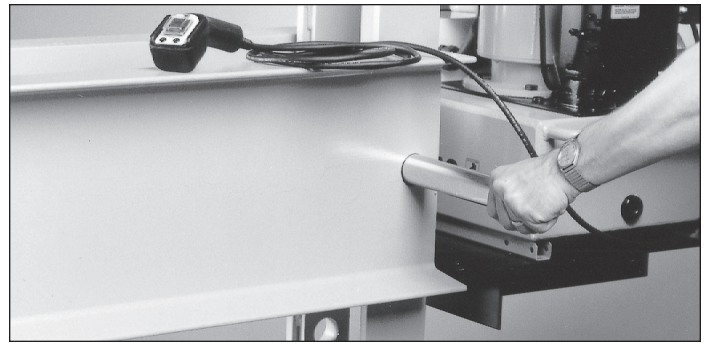

Figure 9
9. Continue to pump bed lifting jack until lowest press bed hole aligns with hole in press frame. The lowest press bed hole will always be on the opposite side of the press from the lifting chain. Insert bed pin. See Figure 9. (If lowering the press, slowly open release valve on lifting jack, lowering press bed until lowest press bed hole aligns with hole in press frame. Close release valve and insert bed pin.)